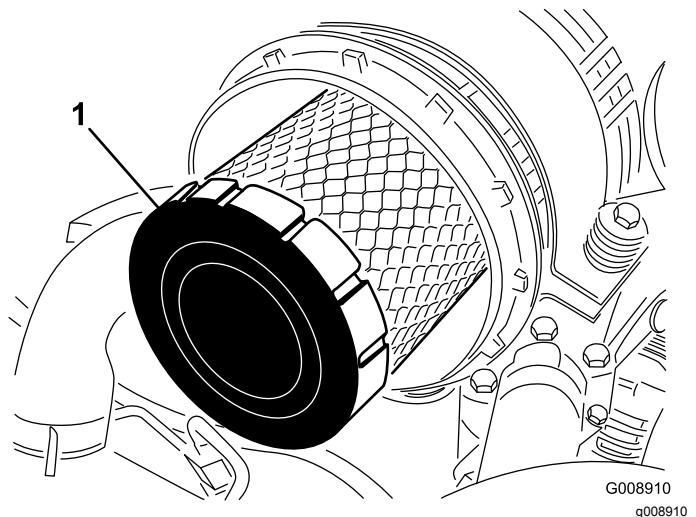

Figure 80
4. Remove the primary filter (Figure 80).